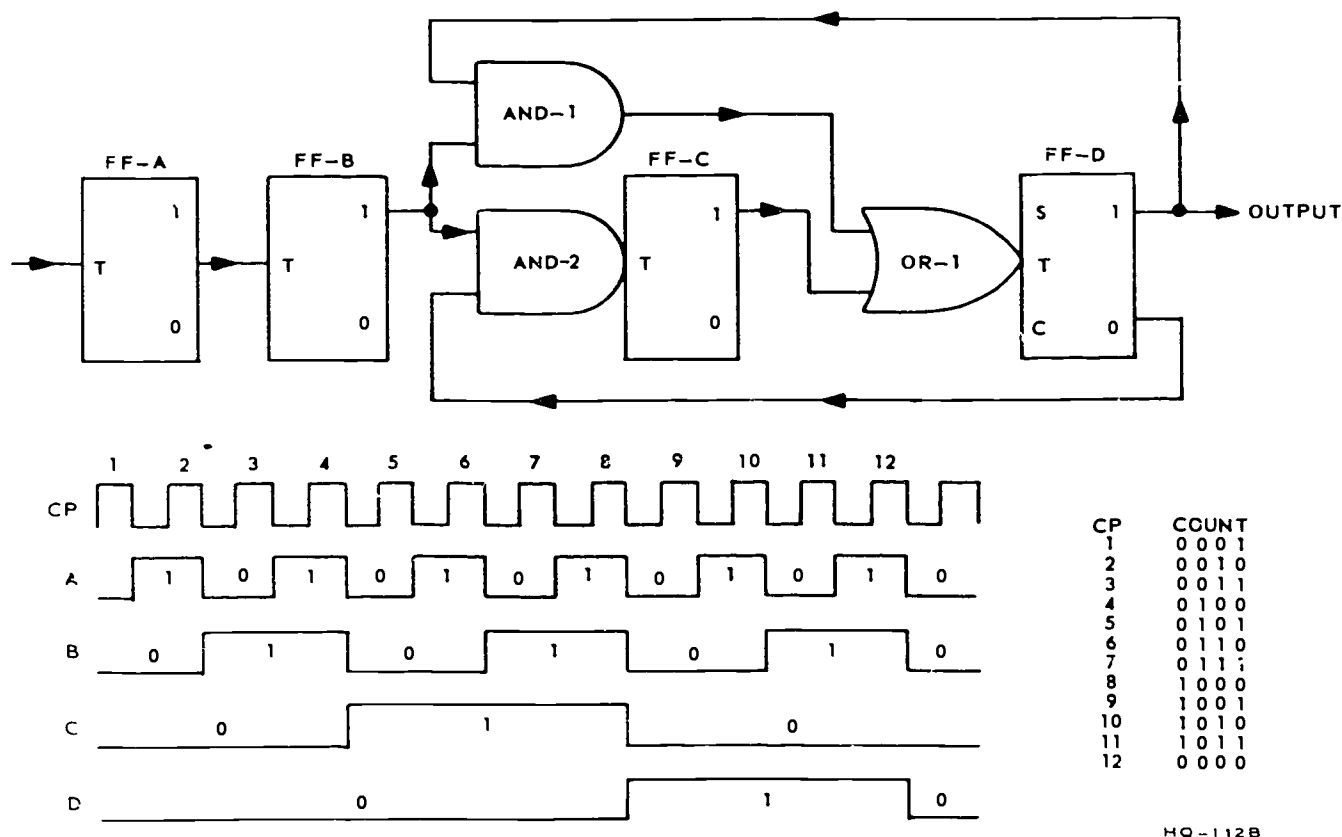

Figure 1-27. Mod-12 counter (count blocking).
Mod-12 Counter. As pointed out earlier, binary counters that are modified to have a modulus—that is, not a power of 2—are called *modulus counters*, or are simply referred to as mod counters. Figure 1-27 shows a four-stage binary counter modified to recycle after a count of 12; hence, it is a mod-12 counter.
The counter shown in figure 1-27 is a four-stage serial-up counter. It has been modified to block FF-C from receiving counts after the count of 8. Since this flip-flop represents $2^2 = 4$, disabling it removes four counts from the maximum count capability of the counter. A four-stage binary counter has a modulus of $2^4 = 16$; thus, this modified counter has a modulus of $16 - 4 = 12$. It is, therefore, a mod-12 counter.
keeps AND-gate 1 inhibited. From the waveforms and the table shown in figure 1-27, you can see that the counter functions as a normal serial-up counter up to 8. Count 8 sets FF-D to the ONE state, inhibiting AND-gate 2, and conditioning AND-gate 1. FF-C is now blocked and cannot count. FF-A and FF-B change state to provide the counts of 9, 10, and 11. Upon receipt of count 12, FF-A downclocks, triggering FF-B to the ZERO state. The downclock from FF-B passes through AND-gate 1 and triggers FF-D to the ZERO state. Thus, the counter is reset to 0 0 0 0 upon the receipt of the 12th pulse. The downclock from the ONE side of FF-D is fed to other circuits to indicate that 12 counts have been counted.
- How does the mod-12 counter in figure 1-27 block the count?